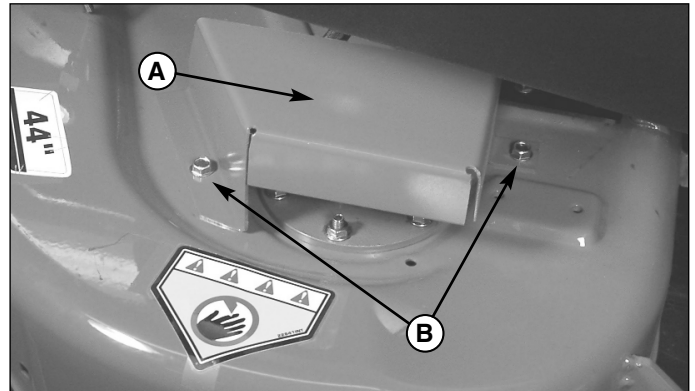

Figure 35. Belt Guard Removal
2. Remove the hardware (B, Figure 35) securing the belt guards (A) covering the left and right arbor pulleys, and remove the guards.